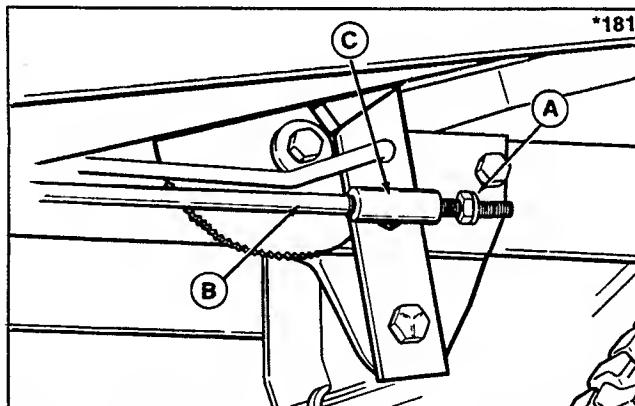

Figure 15. Brake Rod Adjustment
- Pull forward on the brake rod (B, figure 15) to take up any slack. Set the nut (A) on the brake rod so there is 1/2 to 5/8 inch (12.7 to 15.8 mm) clearance between nut and rod guide (C).